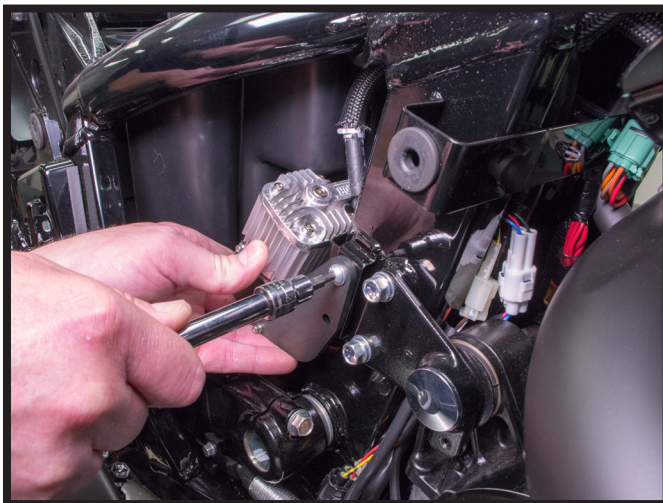

FIGURE 15
7. USING THE SUPPLIED SCREW AND WASHER SCREW THE PUMP ASSEMBLY TO THE HOLE JUST TAPPED INTO THE FRAME. MOUNT THE SWING ARM PIVOT COVER BACK ON THE MOTORCYCLE USING THE ORIGINAL HARDWARE. (FIGURES 15, 16)